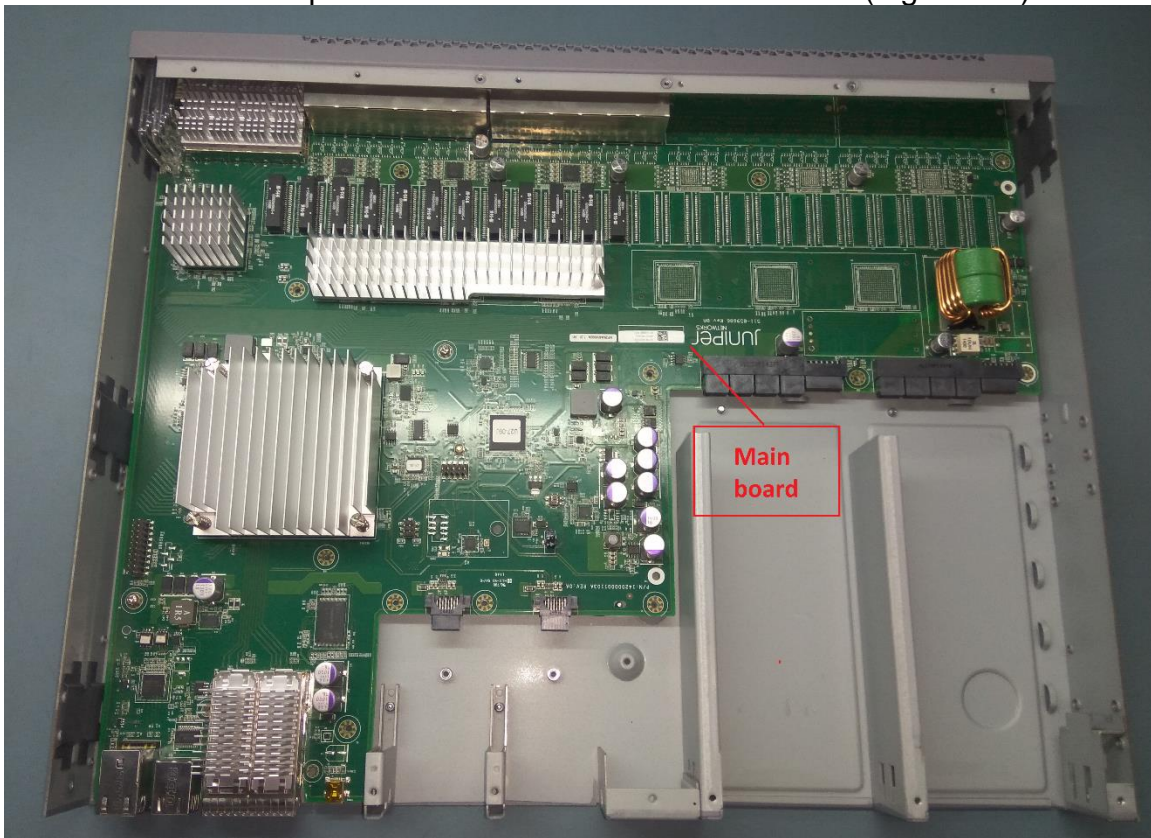

Figure 3-5: Open Chassis
6. Remove the top of the chassis for Main board access (Figure 3-5)